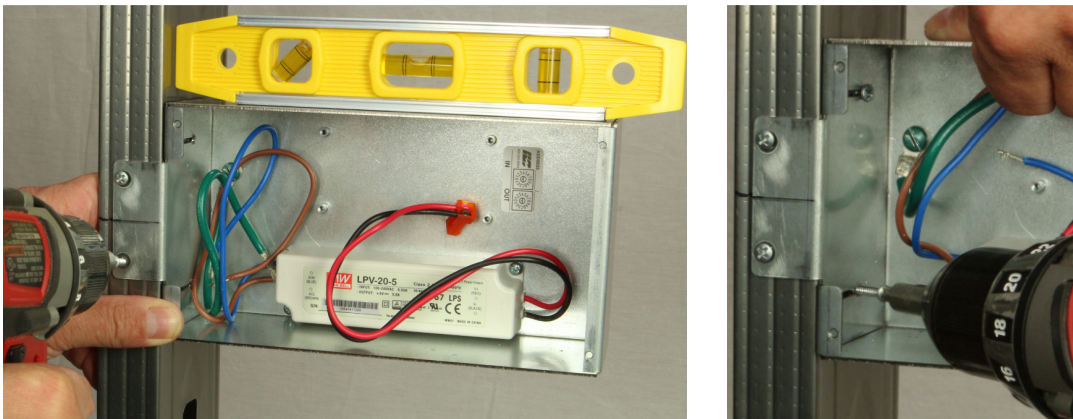

Figure 3 Securing the Enclosure
4. Position the enclosure at the wall stud and fasten using the screw holes provided, Keeping the enclosure level, fasten to the face of the stud with 2 screws through the tab provided as shown on figure 3. From the inside of the enclosure install 2 additional screws in the slots provided securing the box to the stud.